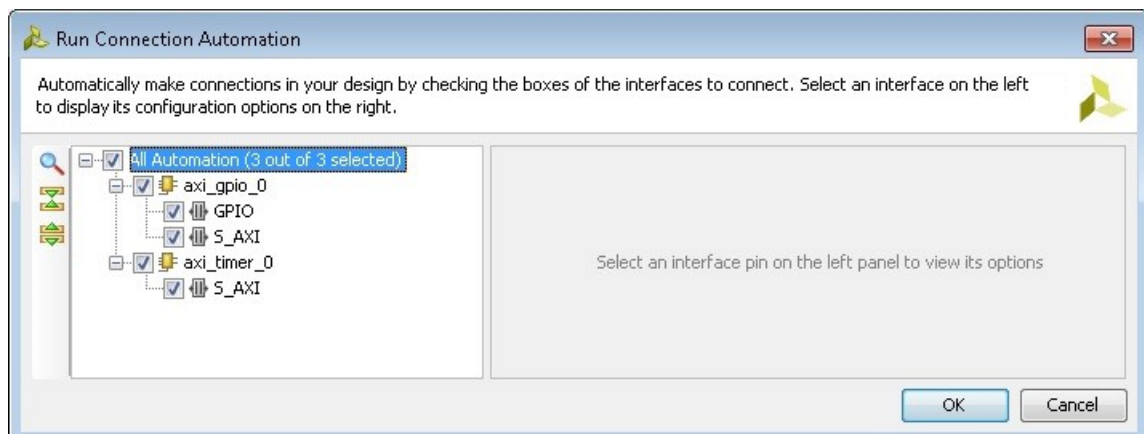

Figure 3-4: Run Connection Automation Wizard
16. In the Run Connection Automation wizard, select the check box next to **All Automation**, as shown in Figure 3-4.